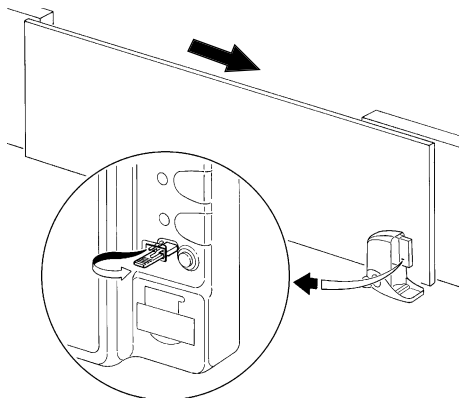
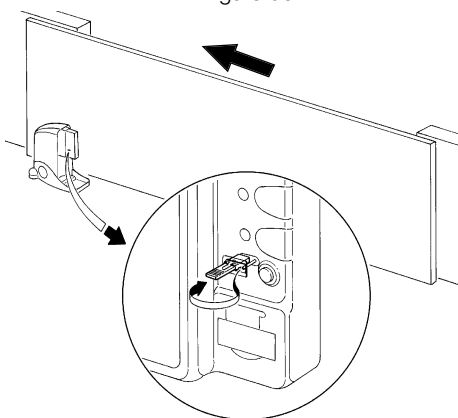

Figure 50
Figure 51
2 Depending on whether the gearmotor is on the right or the left, adjust the jumper selecting the direction of the "Open" manoeuvre as shown in figure 50 or figure 51.
• If the movement is not an opening manoeuvre, press the button again to stop the manoeuvre and invert the position of the jumper (see figure 50 or 51) on page 15. Then repeat point 2.